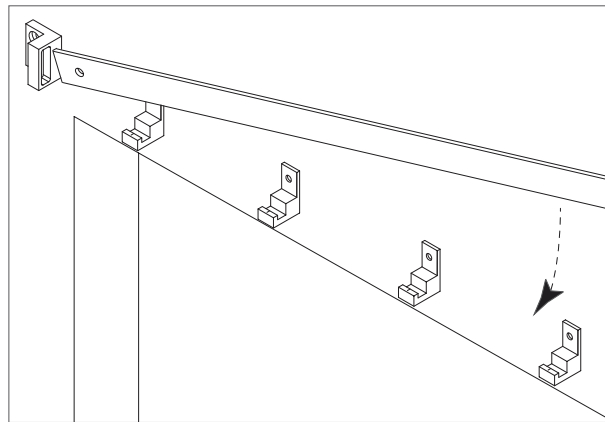

Figure 7
9. Install the track at an angle, inserting the end of the track into the end bracket and laying the track in the groove of the center spacer brackets. (Figure 7).